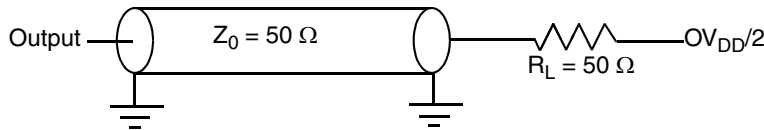

Figure 25. AC Test Load for the JTAG Interface
1. All outputs are measured from the midpoint voltage of the falling/rising edge of t_{TCLK} to the midpoint of the signal in question. The output timings are measured at the pins. All output timings assume a purely resistive 50 Ω load (see Figure 25). Time-of-flight delays must be added for trace lengths, vias, and connectors in the system.
2. The symbols for timing specifications follow the pattern of $t_{(first\ two\ letters\ of\ functional\ block)(signal)(state)\ (reference)(state)}$ for inputs and $t_{(first\ two\ letters\ of\ functional\ block)(reference)(state)(signal)(state)}$ for outputs. For example, t_{JTDVKH} symbolizes JTAG device timing (JT) with respect to the time data input signals (D) reaching the valid state (V) relative to the t_{JTG} clock reference (K) going to the high (H) state or setup time. Also, t_{JTDXKH} symbolizes JTAG timing (JT) with respect to the time data input signals (D) went invalid (X) relative to the t_{JTG} clock reference (K) going to the high (H) state. In general, the clock reference symbol is based on three letters representing the clock of a particular function. For rise and fall times, the latter convention is used with the appropriate letter: R (rise) or F (fall).
Figure 25 provides the AC test load for TDO and the boundary-scan outputs of the MPC8347EA.